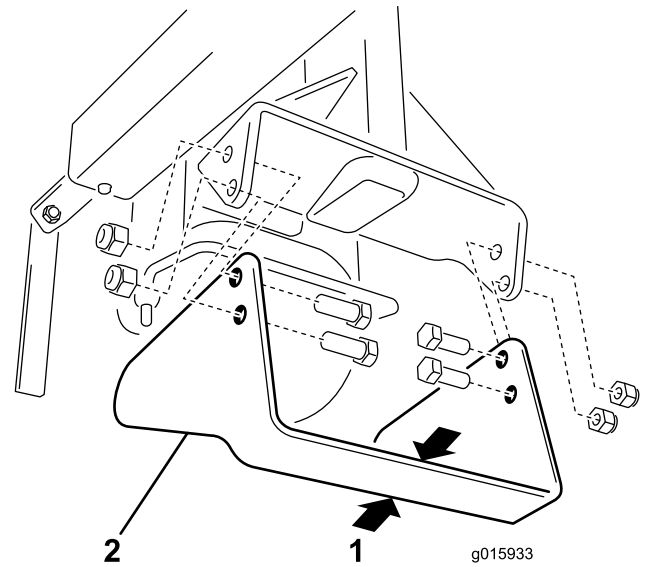

Figure 15
Check the edger blade frequently and replace the blade when the blade width is reduced to 1-1/4 inches (Figure 15).
3. Remove the 4 screws and nuts that secure the blade to the cutter arm (Figure 15).